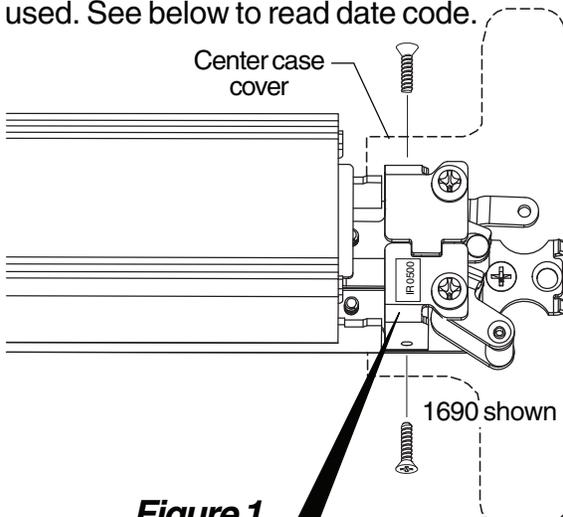

Figure 1
- 1 Remove center case cover and check for date code sticker (Figure 1). If date code sticker is not present or date code is older than June 2002, RX switch cannot be used. See below to read date code.